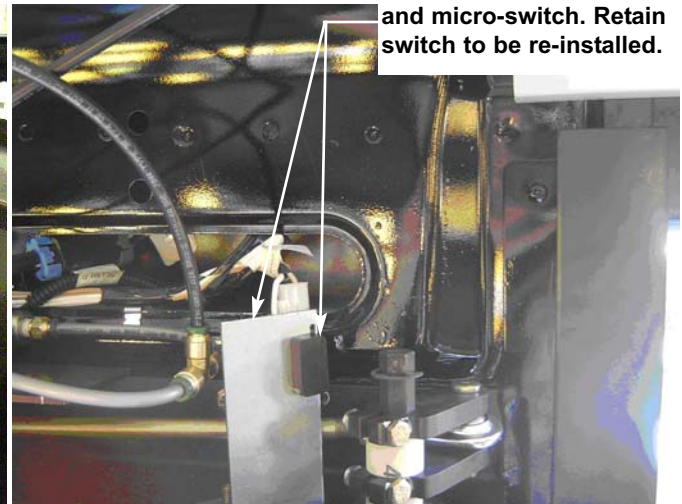

Figure 10
- 2.4 Remove existing switch bracket and micro-switch. **Figure 10**